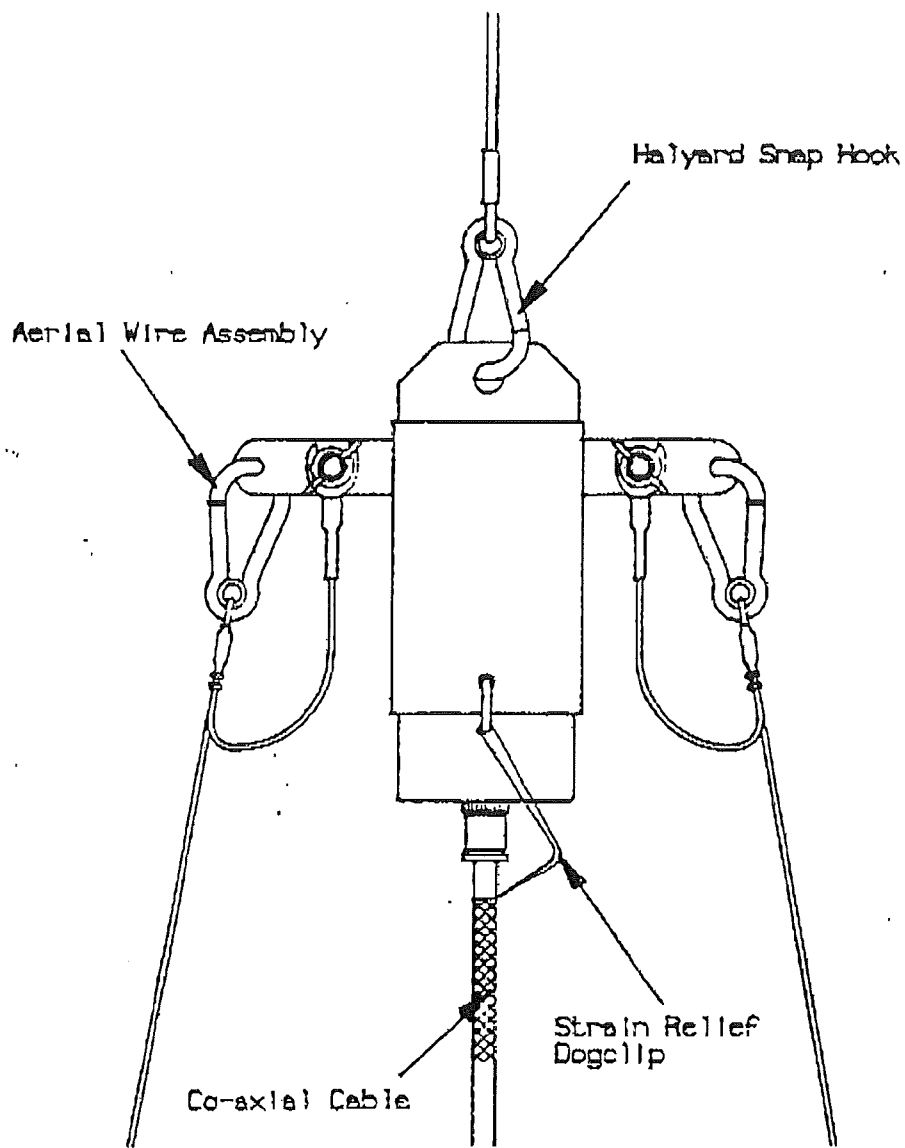

Figure 5-6. Sloping Vee Balun Connections
- Step 7 Repeat Steps 4, 5 and 6 with the other reel for the second vee leg. (See Figure 5-6.)